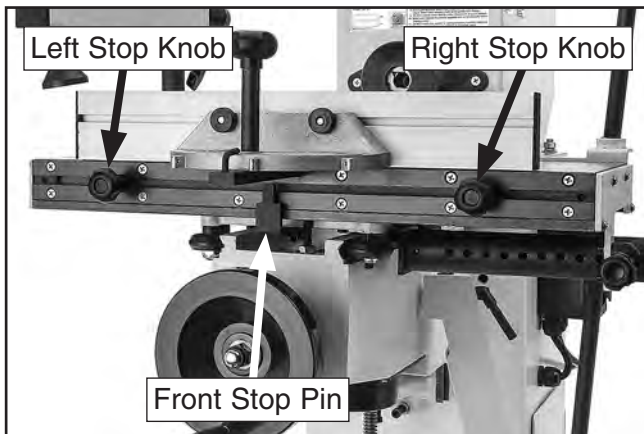

Figure 20. Left-to-right table stop adjustments.
1. After adjusting table depth stop, loosen and move left and right stop knobs away from front stop pin (see **Figure 20**).